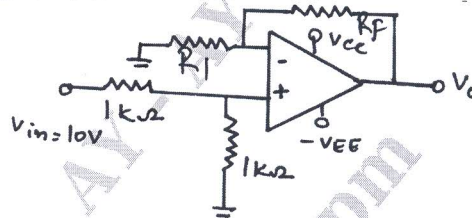

Fig.Q.1(c)
- c. For the circuit shown in Fig.Q.1(c), find V_0 given $R_F = 50K\Omega$ and $R_1 = 10K\Omega$ (06 Marks)